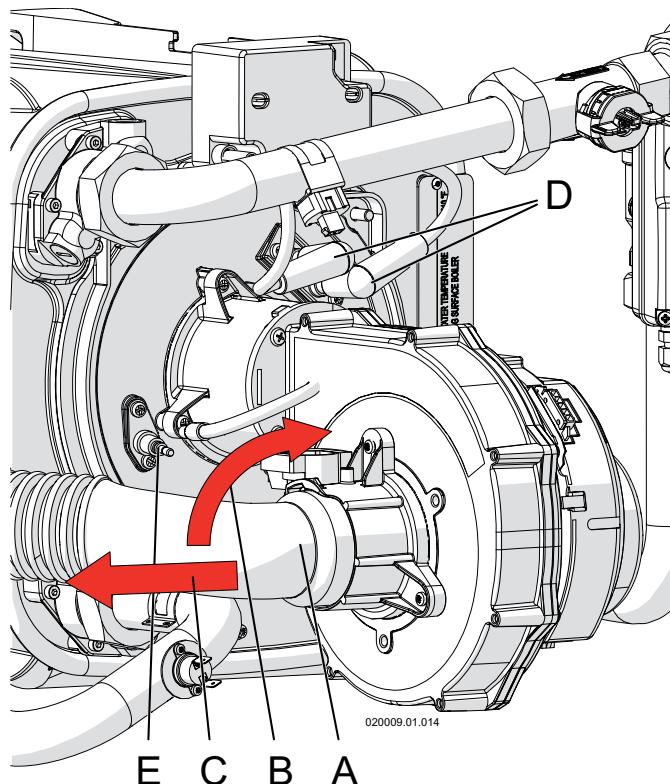

Figure 15-4 Remove the air inlet silencer
4. disconnect the two wires "D" (Figure 15-4) from the ignition electrodes and the wire "E" (Figure 15-4) from the flame detection electrode;
5. rotate the air inlet silencer "B" (Figure 15-4) in the up direction;
6. pull in the left direction "C" (Figure 15-4) the air inlet silencer and remove it from the fan;